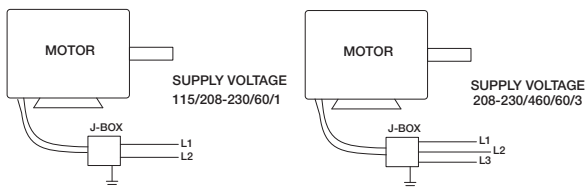

Figure 3 - Typical Wiring Diagram
- Mount and wire safety disconnect switch under motor cover. Wire control switches at ground level, refer to Figure 3.